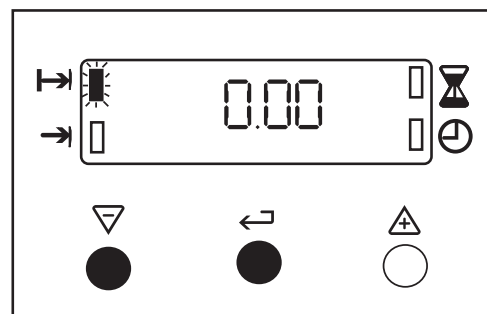

Fig.12.
- i) To cancel an automatic programme press the Selector Control button until the 'Cook Time' indicator neon flashes. Press the decrease control (-) until the display reads 0.00 as Fig. 12.